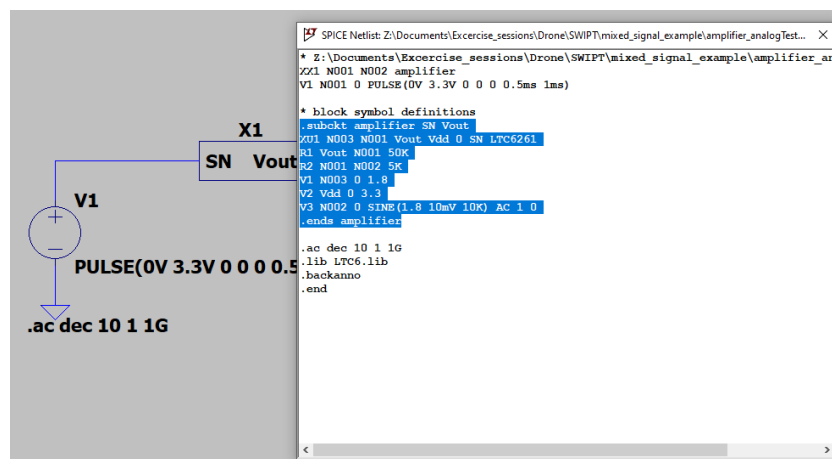

Figure 8: The final netlist. Normally you only need the subckt and the included libraries
7. Select and copy the SUBCKT of interest, the amplifier in this case, as shown in Figure 8. You can now use this SUBCKT in other netlists and/or in mixed signal simulations. Note that, if any ".lib" files or other source files are included in the shown netlist (here this would be "LTC6.lib"), you will need to ensure that these files can be found when using the SUBCKT outside LTSpice. A simple solution is to copy the included file to the run directory of your simulation. Alternatively, you can update the path of the file so it will be found correctly. The location of native LTSpice libraries can be seen when adding the component to the schematic.